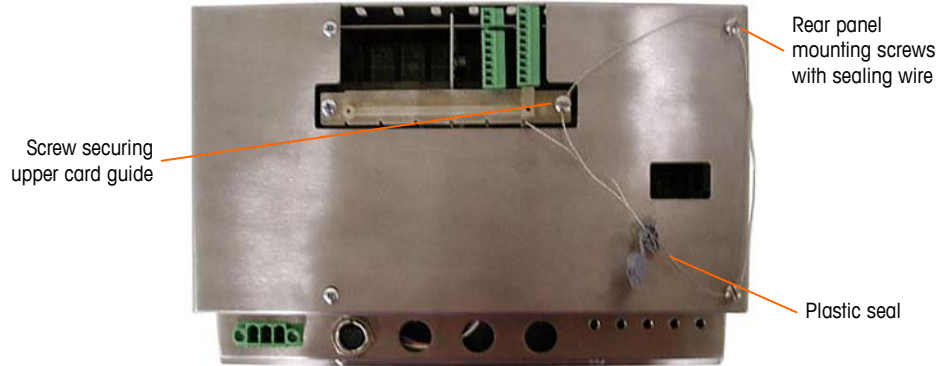

Figure 2-95: 3-Point Sealing, Panel Enclosure Rear Cover
4. Finally, the back panel of the enclosure is sealed. Three sealing screws are indicated in Figure 2-95 – two secure the panel in place on its stand-offs and one secures one end of the upper card guide.